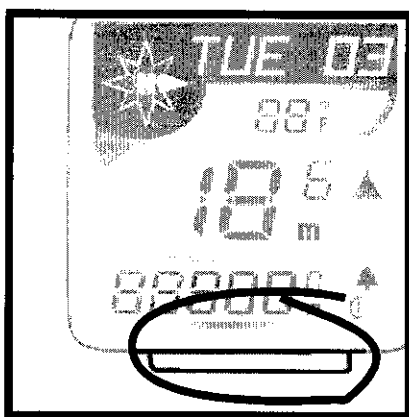

Fig. 11
MODE button (Fig. 11).
3. Press <Mode> (Fig. 11) to scroll to a different setting. Press <Set> to select your preferred wheel size.